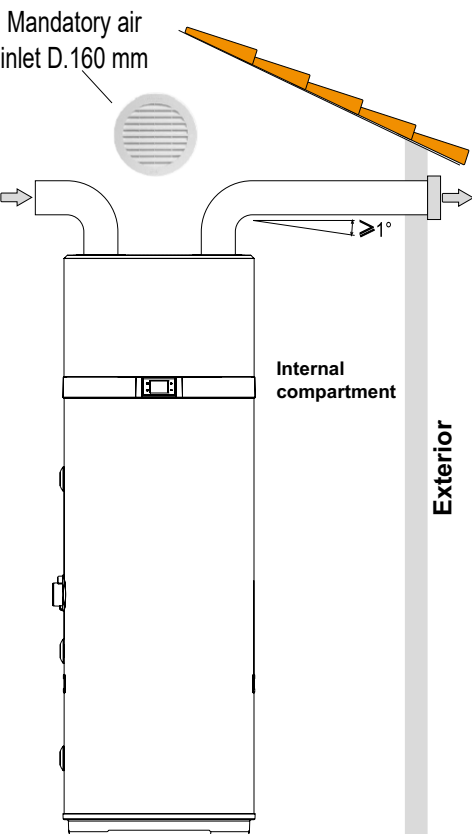

fig. 52- Example of air outlet connection
- Create a dedicated air duct as indicated in fig. 52.